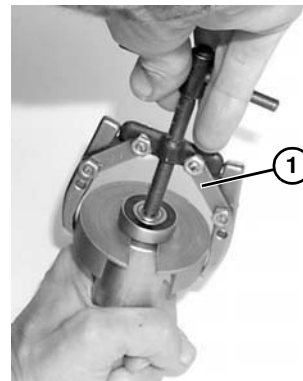

Figure 121
2. Using puller part #807-1716 (**Figure 121, item 1**), remove and discard bearing.